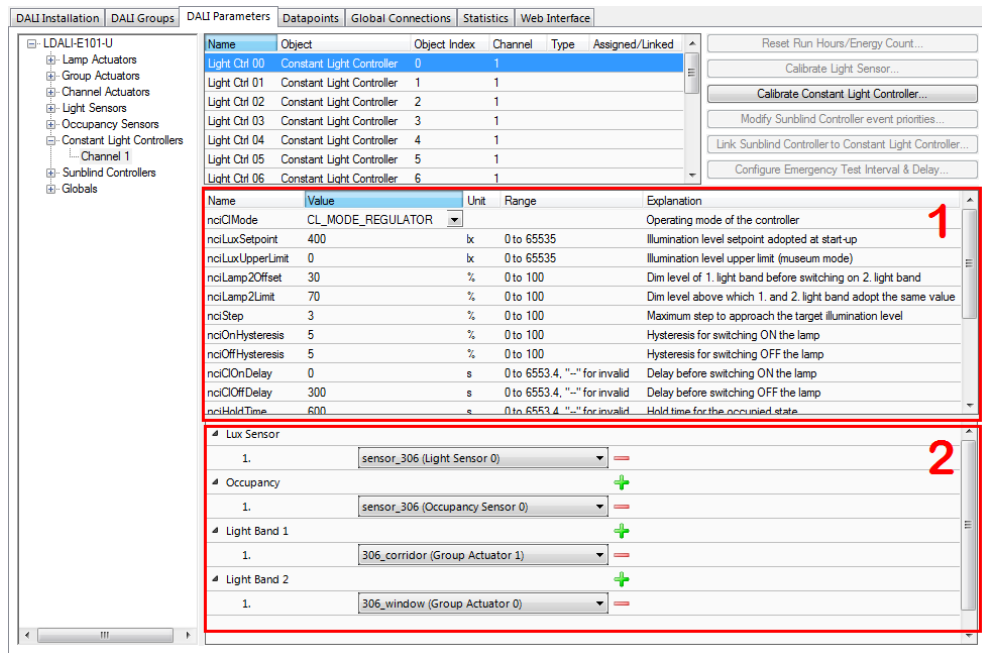

Figure 77: Parameterize Constant Light Controller.
- Select the constant light controller with index 0 as shown in Figure 77. The parameters of the selected constant light controller are displayed in the middle of the window (1).